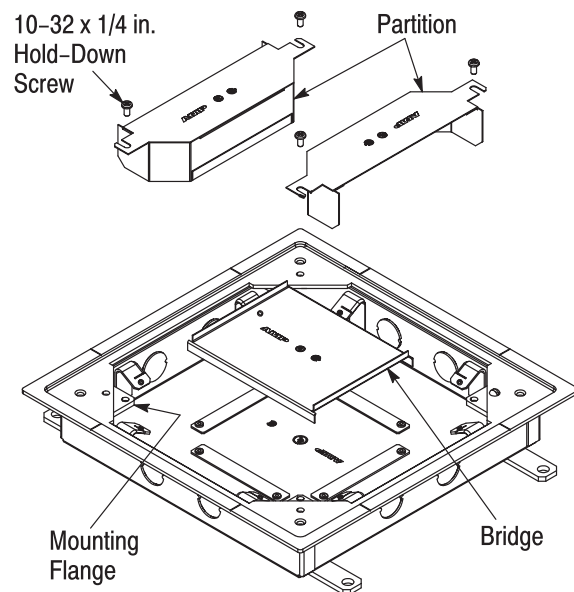

Figure 3
The following parts are also available (See Figure 3):
4.1. Installation of Partition and Bridge Kits (Figure 3)